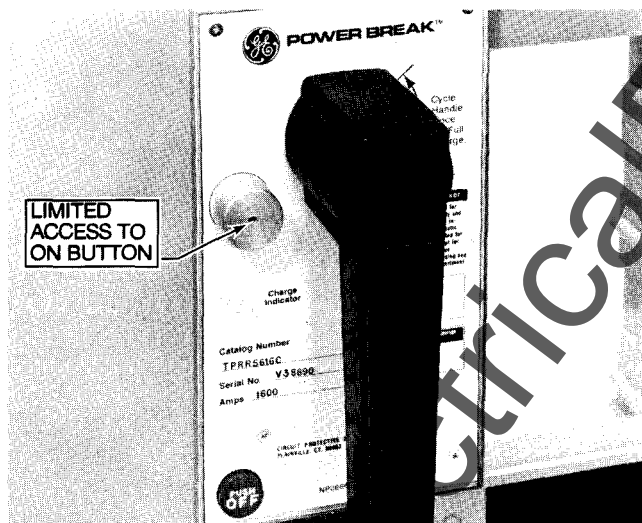

Figure 44.
- I. Limited close access button ("C") suffix in catalog number (Fig. 44).